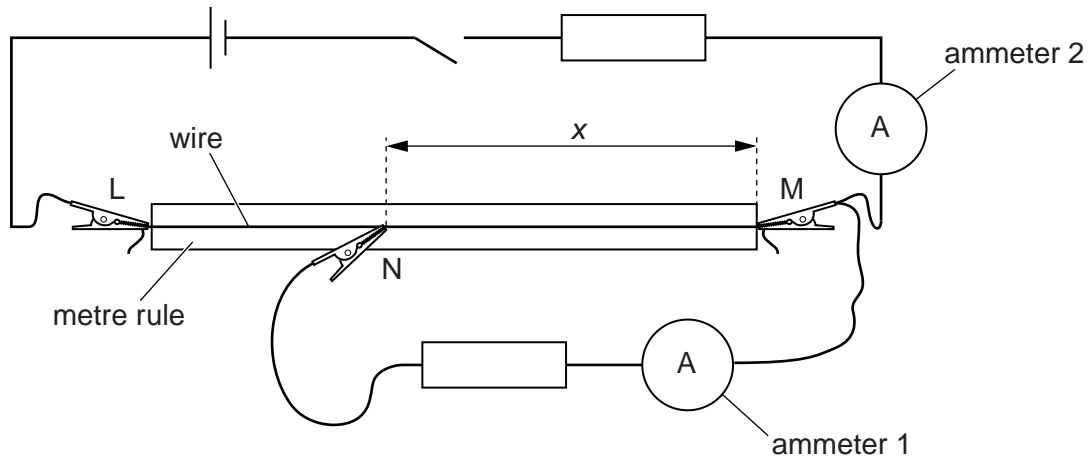

Fig. 1.1
- (a) (i) Set up the circuit as shown in Fig. 1.1.